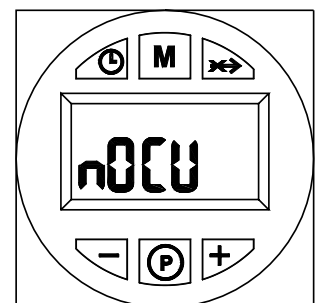

fig. 5
- "nOCU" (fig. 5) may appear for a couple of seconds